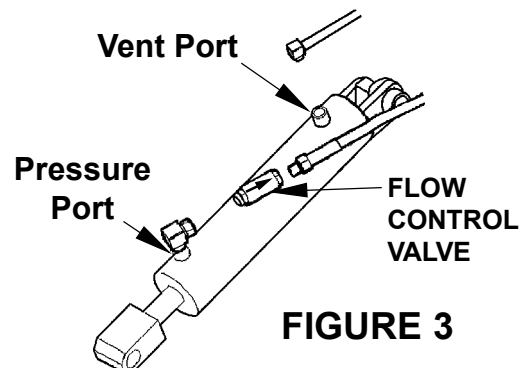

FIGURE 3
8. With the Platform on the ground, remove breather plug or vent line from vent port of cylinder. Raise the Platform to bed level. If hydraulic fluid streams from the Vent Port, the Piston Seals are worn. **(See Fig. 3)** Replace the Seals.
9. Check the Flow Control Valve. The arrow on the valve shows the direction of flow that is restricted, and Must point back to the Pump. **(See Fig. 3)**